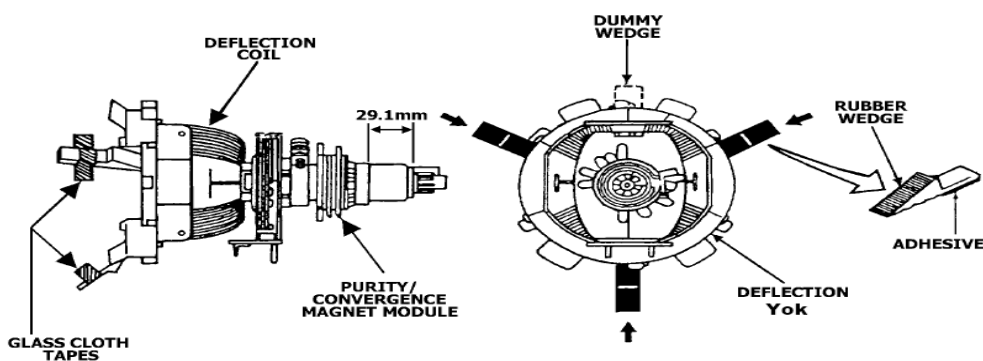

Fig. 1
1. Refer to Figure 1, remove 7 screws.
Note: If the Picture Tube is being replaced, mount the Degaussing Coi l on the picture tube. See following Figure1.Cabinet Back Removal
1. The purity/convergence magnet assembly and rubber wedges need mechanical ositioning. Refer to Fig1, 2.